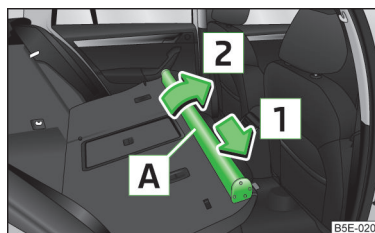

Fig. 103
- Push the net partition housing **A** in the direction of the arrow 1 and remove it from the mounts on the right seat backrests in the direction of the arrow 2 » Fig. 103.
- Push the net partition housing in the opposite direction of the arrow 1 » Fig. 103 as far as the stop.